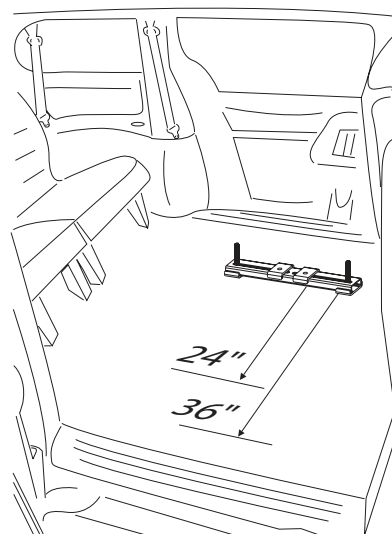

Figure 23-2
4. Installing the Rear Leg. The AL690's rear leg will be installed approximately 24" to 36" from the front leg. [Figure 23-2]